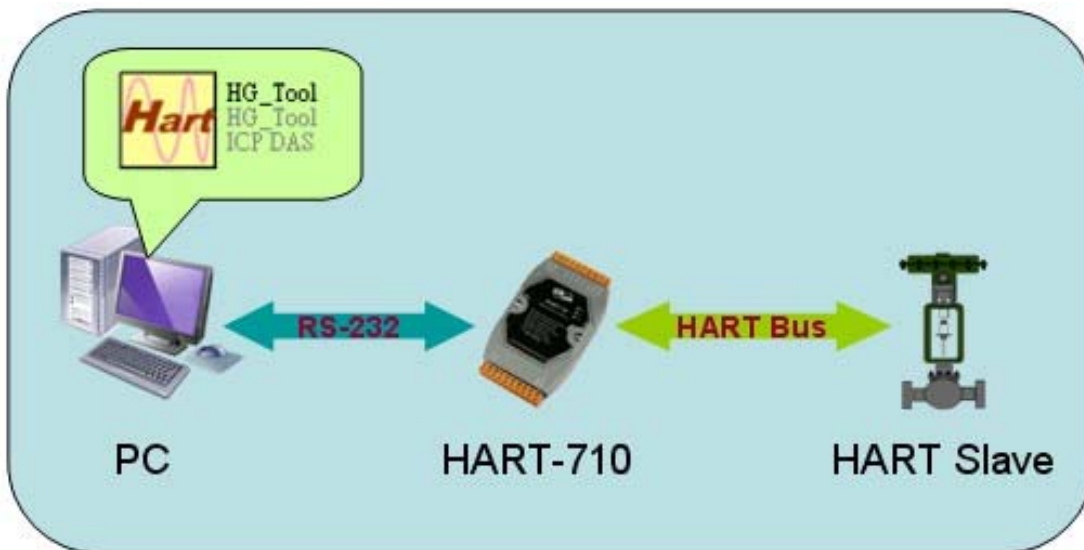

Figure 1: Application example
The manual is intended to help users quickly understanding and easily using of HART-710. We use a HART-710 (as a HART master), one HART slave and one PC to make a simple application here, as shown in figure 1. The PC is prepared for setting and operating the HART-710.
Step 1: Connect PC, HART-710 and HART slave device according to figure1.